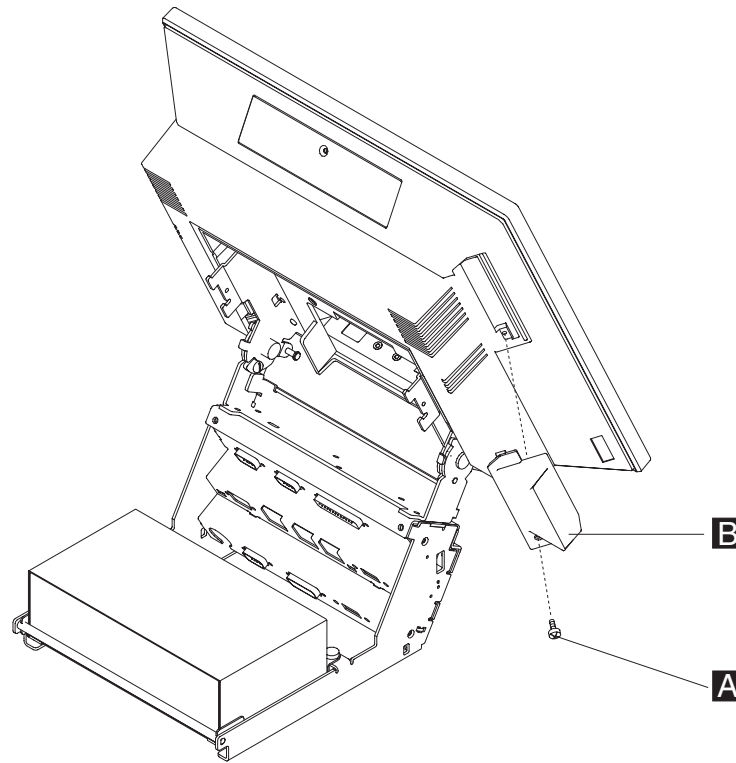

Figure 58. Removing a PC card adapter card
1. Remove the PC card cover from the rear of the left side of the display (one screw) as shown in Figure 58.